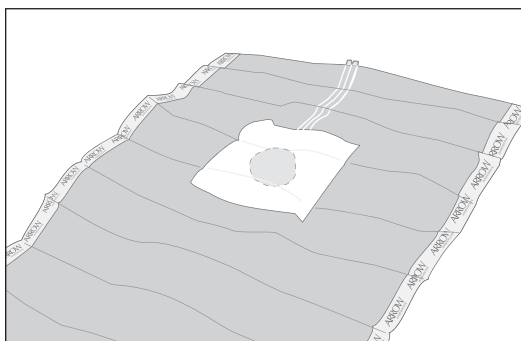

Figure 15
- Perform sterile procedure (refer to Figure 15).